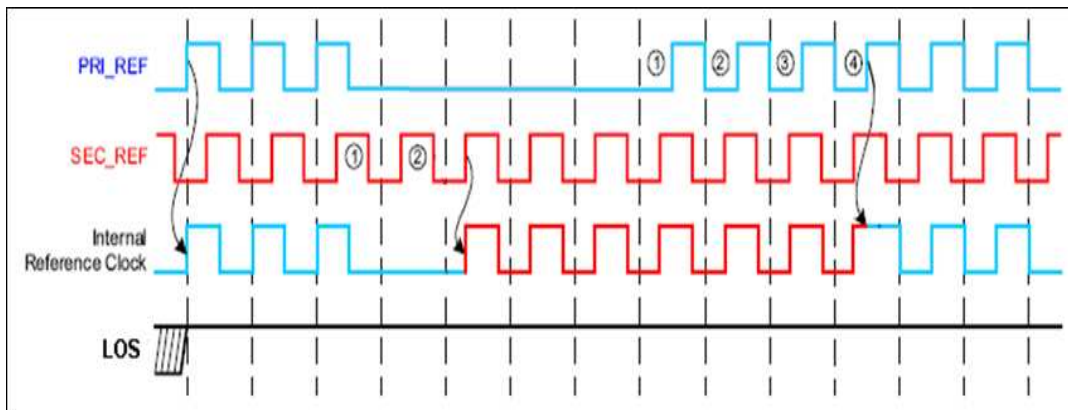

**Figure 37. Smart Input MUX Auto-Switch Mode Timing Diagram**
**Switching behavior:** The input clocks can have any phase. When switching happens between one input clock to the other, the phase of the output clock slowly transitions to the phase of the newly selected input clock. There will be no-phase jump at the output. The phase transition time to the new reference clock signal depends on the PLL loop filter bandwidth. Auto-switch assigns higher priority to PRI\_REF and lower priority to SEC\_REF. The timing diagram of an auto-switch at the input MUX is shown in Figure 37.